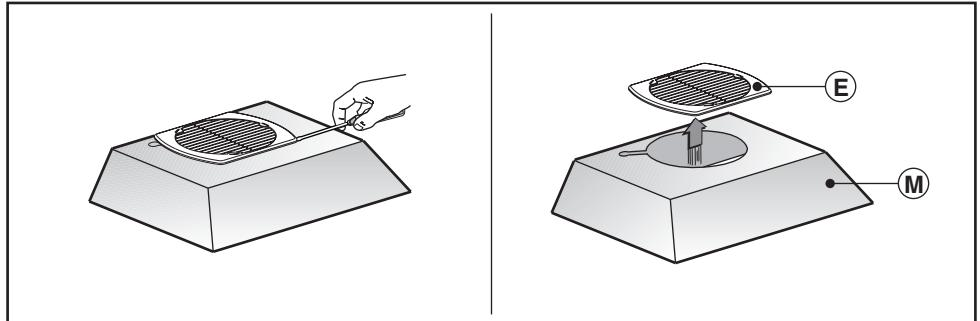

Fig.7
-Unclip the canopy **M** and remove the grille **E** (Fig.7).